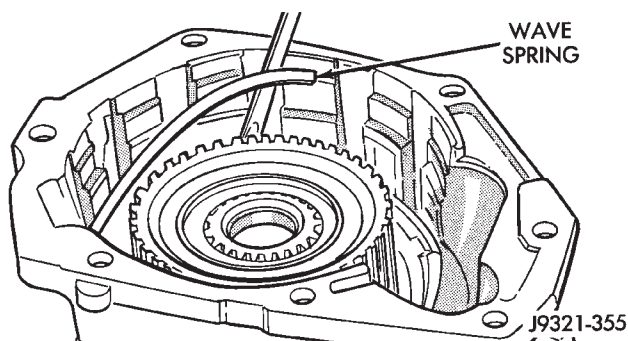

Fig. 199 Overdrive Clutch Wave Spring Removal/Installation
- (1) Remove overdrive clutch wave spring (Fig. 199).